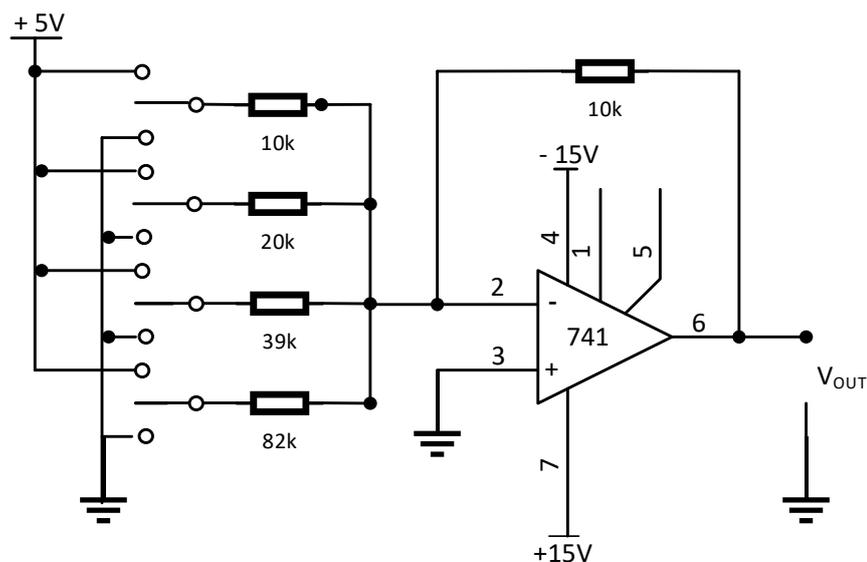

Figure 1
**Step 1.** Assemble the circuit as shown in **Figure 1**.